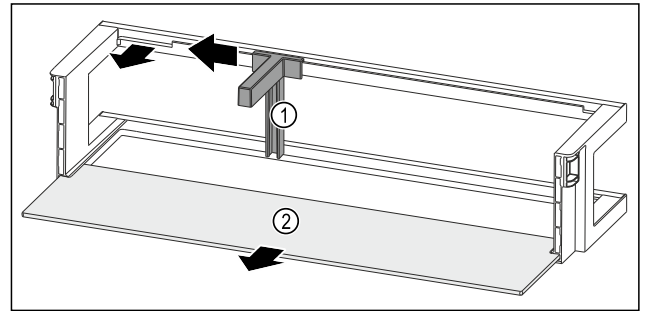

Fig. 134 Door racks with bottle holder and shelf
- Push the bottle holder Fig. 134 (1) to the side up to the recess.
- Remove the bottle holder Fig. 134 (1).
- Remove the shelf Fig. 134 (2).